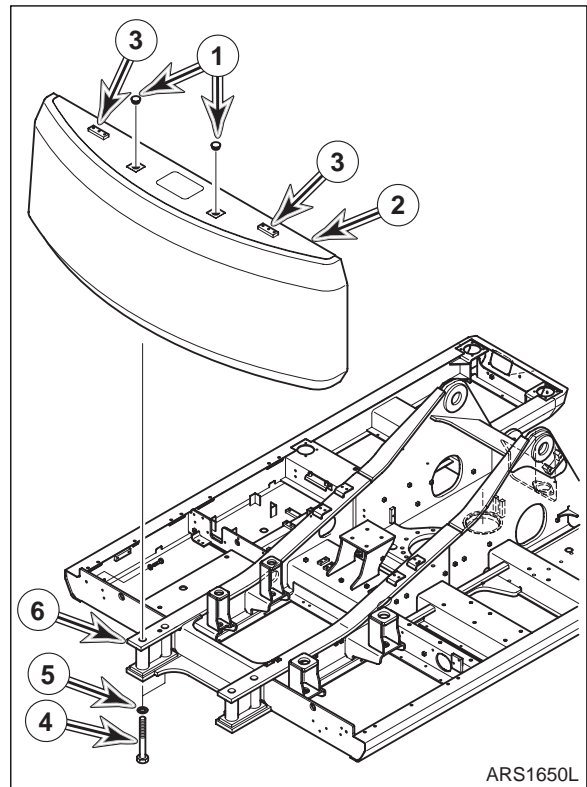

Figure 5
2. Using suitable lifting device capable of handling load, raise counterweight (2, Figure 5) into position just above support frame (6) leaving counterweight suspended. Verify that counterweight is level and even.
**NOTE:** Leave counterweight (2, Figure 5) suspended 3 mm (0.125") above support frame (6) until all four mounting bolts (4) are started in counterweight mounting holes.
3. Slide washers (5, Figure 5) onto bolts (4). Apply Loctite #242 to mounting bolt threads.
4. Install four bolts (4, Figure 5) with washers (5) into counterweight until washers contact support frame. Fully lower counterweight onto support frame and finish tightening bolts.
**NOTE:** Tighten bolts (4, Figure 5) to values shown in following table.
5. Remove lifting device and lifting eyes from counterweight lifting holes (3, Figure 5).
6. Install two caps (1, Figure 5) in lifting holes (3).